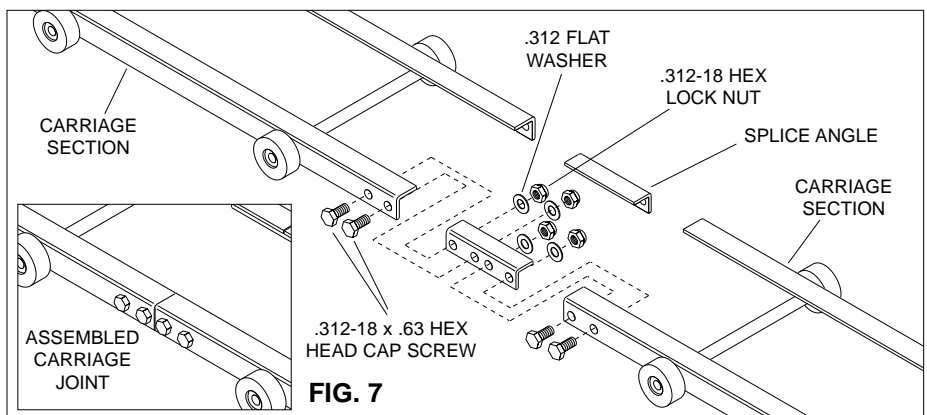

FIG. 7
STEP 1: Assemble carriage sections using splice angles, .312-18 x .63 long hex head cap screws, flat washers, and .312 locknuts as shown in Fig 7. Securely tighten all nuts. Be sure finished length of carriage is same as shown on General Arrangement Drawing.